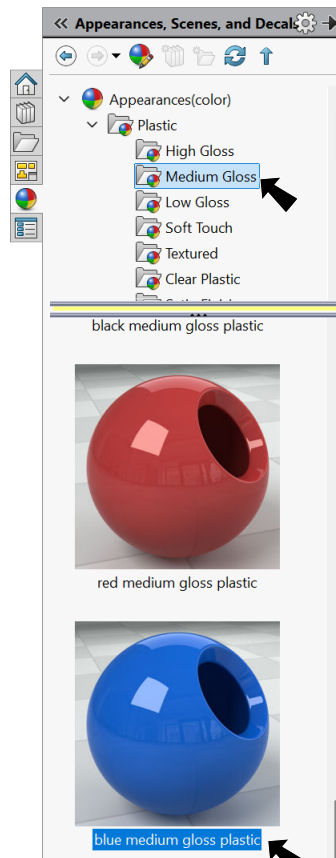

Fig. 36
Step 2. In the Appearances Task pane, expand **Plastic**, click **Medium Gloss** and in the lower pane select **blue medium gloss plastic**, Fig. 36.